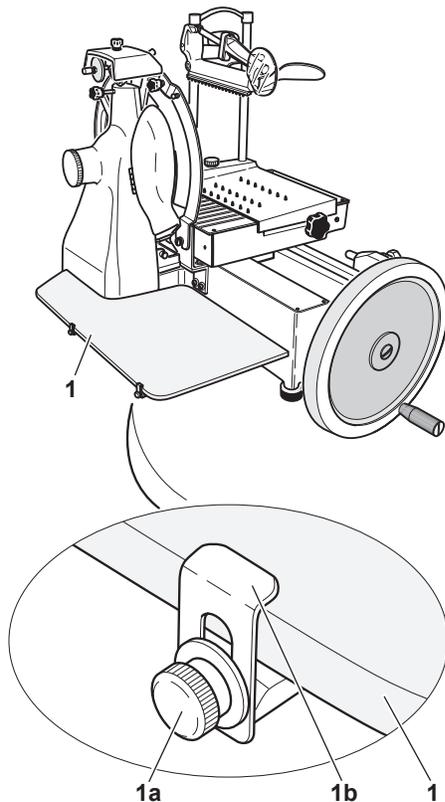

Figure 17-2
- Remove the slice receiving tray (1). Loosen two screws (1a) to release slice receiving surface (1) from the retaining clips (1b) (Figure 17-2).
- Wash the slice receiving tray (1) with warm water and normal dishwasher detergent.